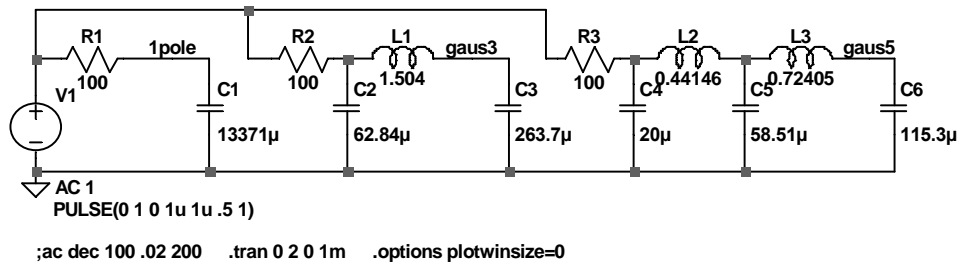

Figure 4: impedance-scaled single-, 3- and 5-pole “Gaussian to 12 dB” LRC networks.
Realizations of the filters as passive networks at a 100 ohm impedance level with series inductors are shown in figure 4. The initial prototype LC values were taken from standard tables of singly-terminated “Gaussian to 12 dB” filters, collected in Williams & Taylor [1] as well as in older classic books such as [2]. Here we use just a source resistance, and the load is assumed infinite. Look at those inductance values, though; these are completely impractical for modern circuits due to their physical size, cost and also (in this case) susceptibility to hum pickup. So that’s question (1) sorted.